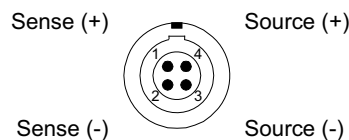

Fig. 132 – Pro II-RTD-8 Rev. E: Pin assignment Lemo connector
- Pro II-RTD-8-L Rev. E: Module inputs on Lemo connectors. Pin assignment see fig. 132.